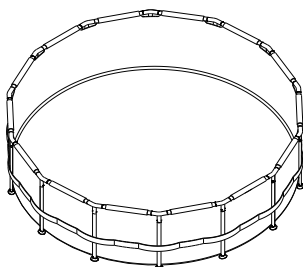

Figure 10
15. Go around and check all fittings, Push-buttons of O-Pins, Legs, and Beams are properly installed and secured in place. Make sure the drain fitting is plugged securely and the cap is in place (see Figure 10).